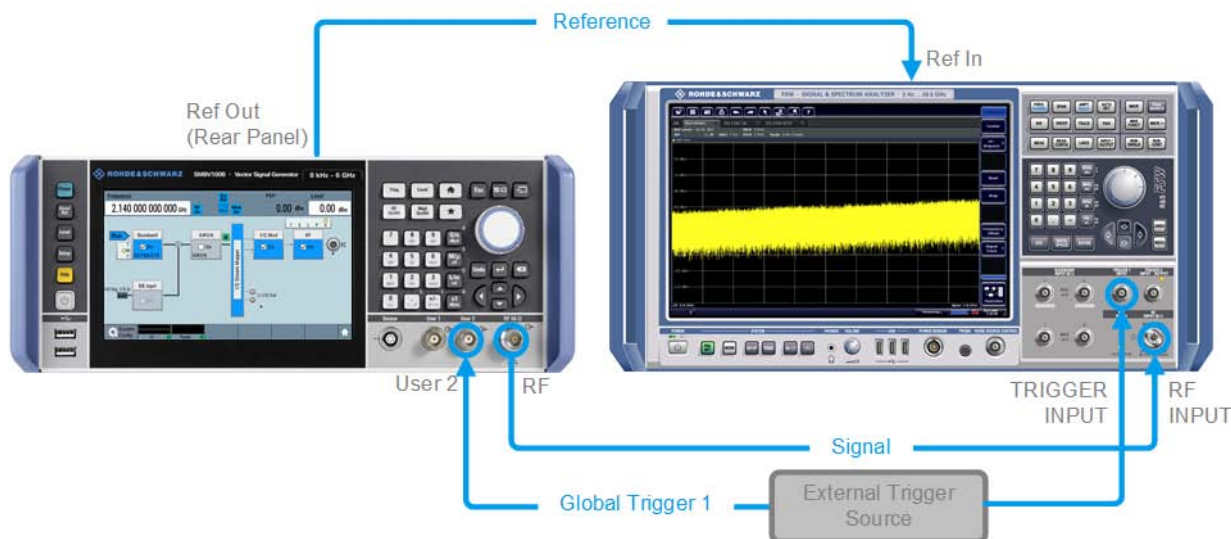

Figure 3-10: Simplified representation of a test setup**
1. Use a suitable cable to connect the external trigger source to the User 2 connector of the R&S SMBV100B. See Figure 3-10.
The Figure 3-10 depicts the location of the connectors and explains the connection as principle. In practice, you would rather "substitute" the analyzer by a DUT, like a base station (BS). Other than in the example, the DUT can be the source for the reference signal. Instead of using an external trigger source, the DUT can also send, for example, a frame trigger signal to the R&S SMBV100B. The R&S SMBV100B acts still as the signal source.